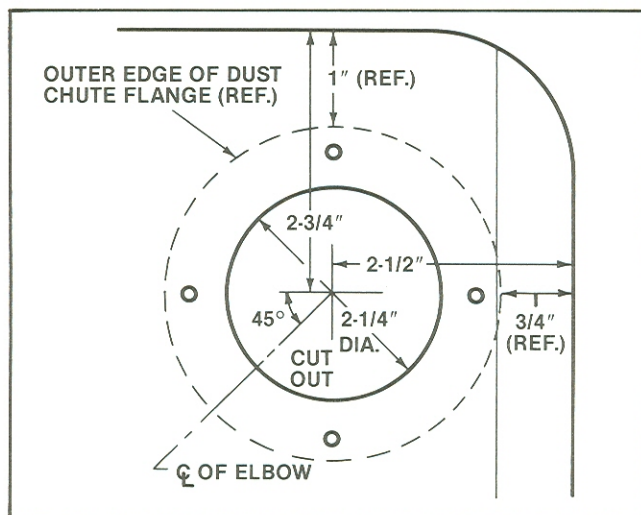

Figure 1. Modify the bandsaw cover.
2. Mark and cut out a hole for the dust chute. At the upper right hand corner of the lower half of the cover, use a combination square to mark two centerlines according to the dimensions given in Figure 1.